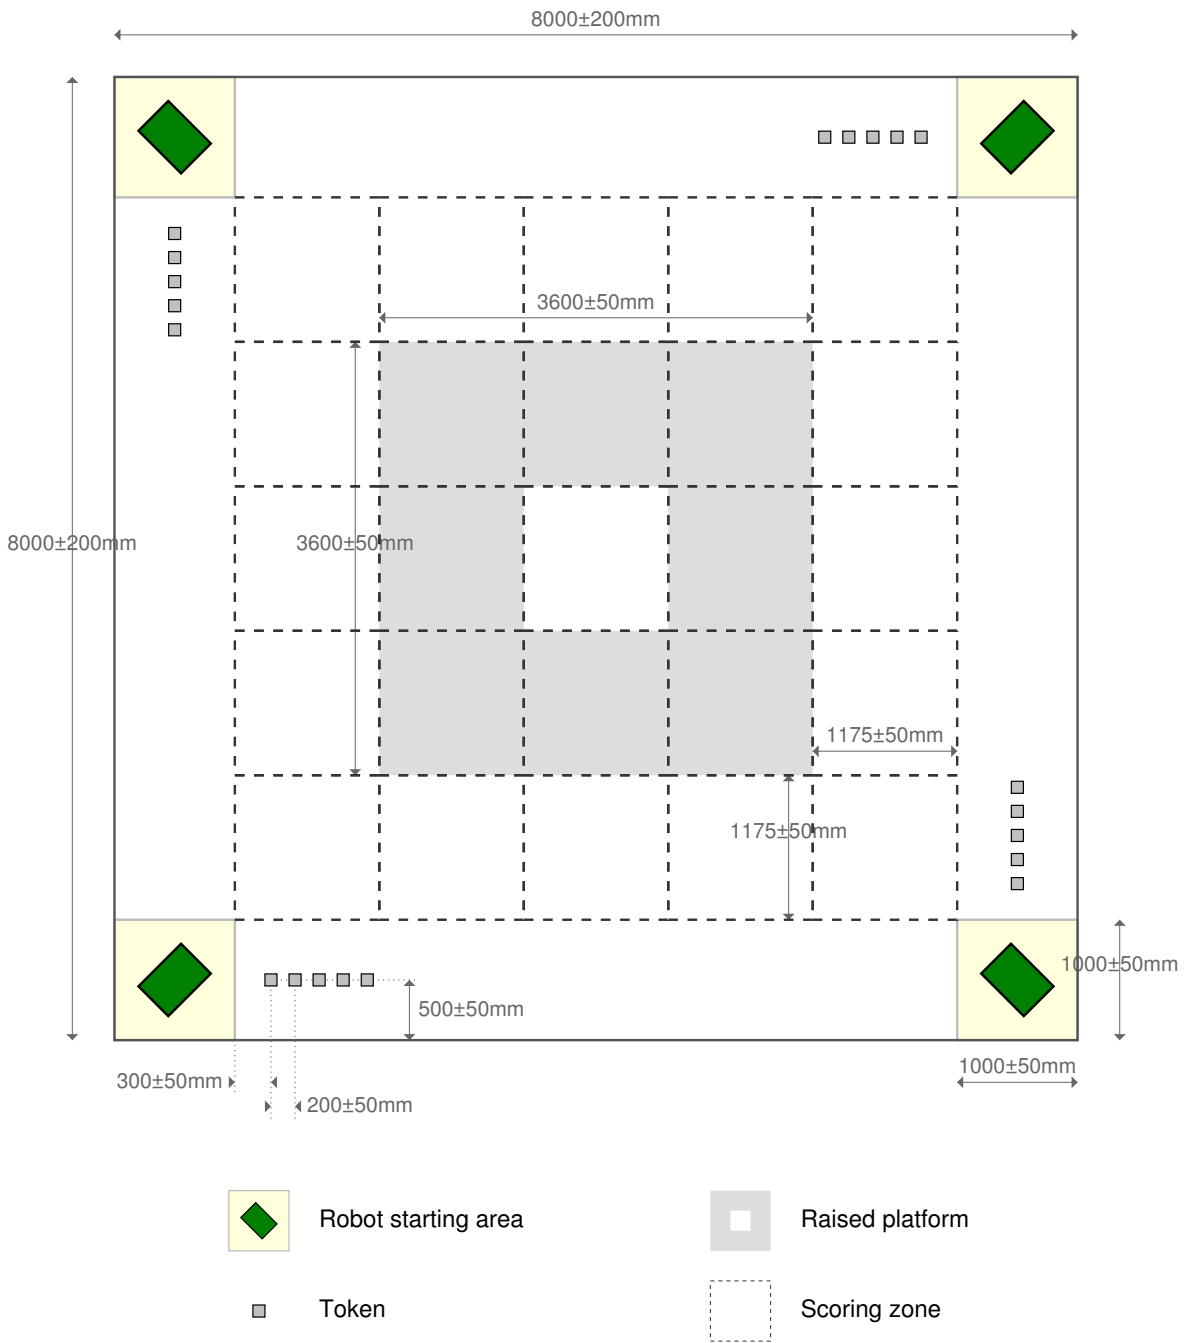

Figure 2: A bird's-eye view of the arena. All dimensions are in millimetres.
3.3.1 The match arena floor, overall, is an  $8m \times 8m$  square, as shown in figure 2. The tolerance of these two dimensions is  $\pm 0.2m$ .
3.4.1 There are 25 zones in the arena, in a 5 by 5 grid square grid centred within the arena and aligned with its axes. Each zone is  $1175mm \pm 50mm$  by  $1175mm \pm 50mm$ . The arrangement and dimensions of these zones can be seen in figure 2.
3.5.2 There will be 40 tokens in the arena: 10 associated with each starting area. These will be arranged as shown in figure 2 at the start of a match.